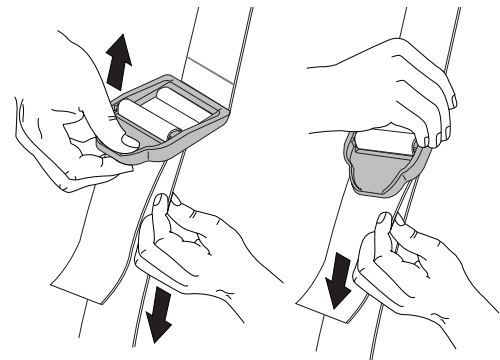

Fig. 9
- Lengthen the harness by pulling down on the strap and lifting the buckle end up (Fig. 9).
- Shorten the harness by pulling the strap back through the buckle while holding the buckle (Fig. 9).